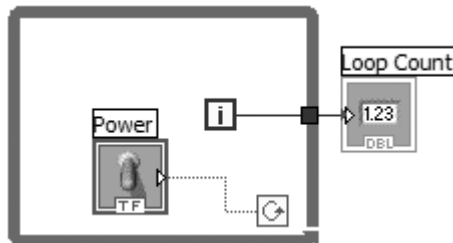

Figure 6.13
9. Now go to the block diagram and move the **Loop Count** indicator outside the loop as shown in Figure 6.13. You will have to rewire the indicator; the tunnel is created automatically as the wire leaves the loop.